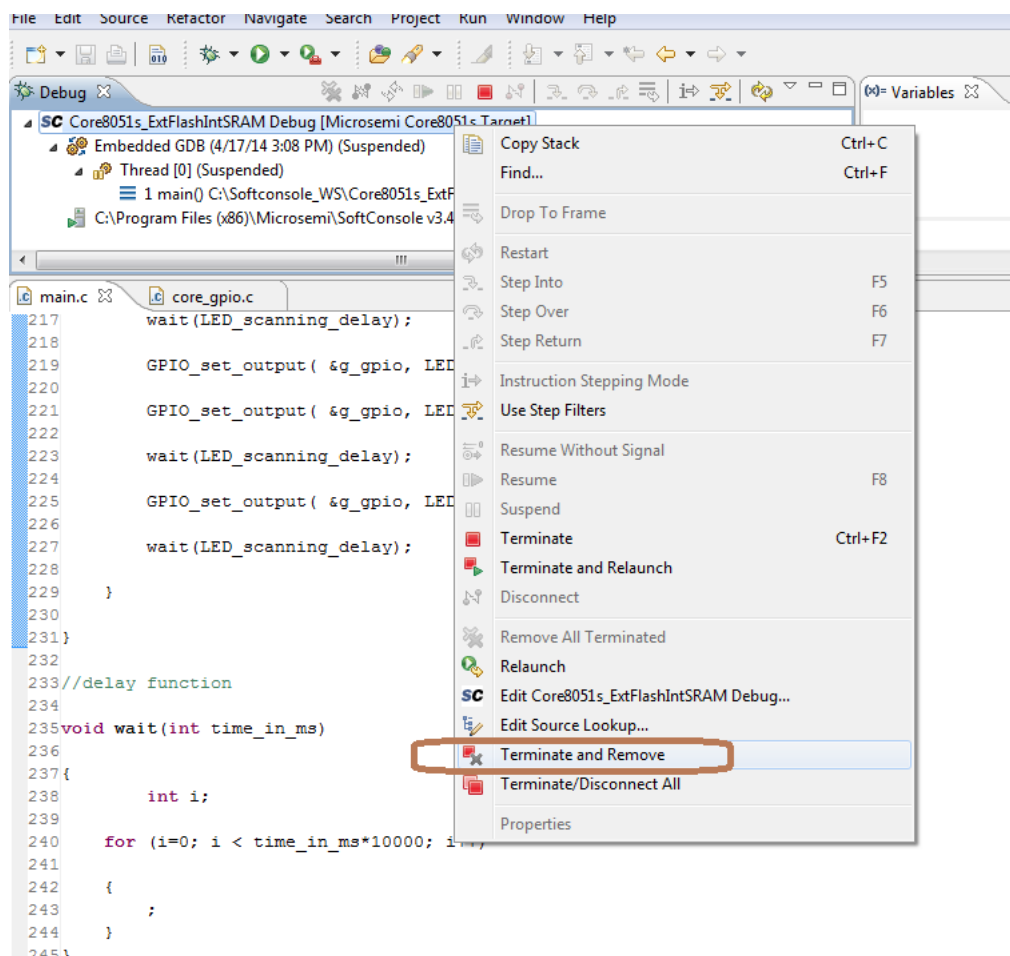

Figure 25 • Terminate and Remove Debug Session
17. Right-click **Core8051s_ExtFlashIntSRAM Debug [Microsemi Core8051 Target]** and click **Terminate and Remove** the debug session as shown in Figure 25.